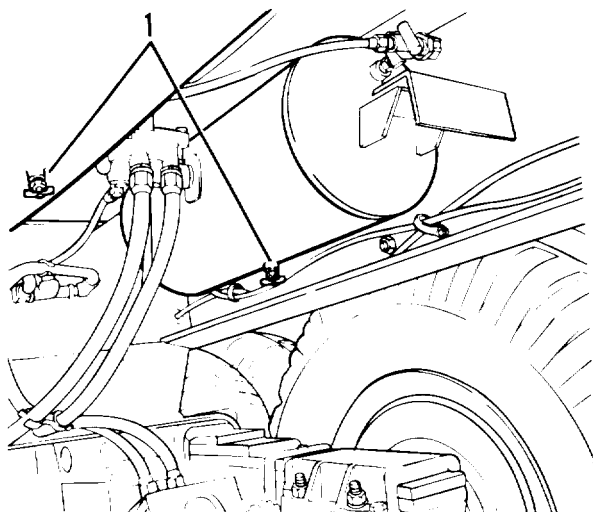

Figure 3-6. Air reservoir
b. Open drain cock (1, figure 3-6) and allow pressure to drain.
c. Close drain cock (1).